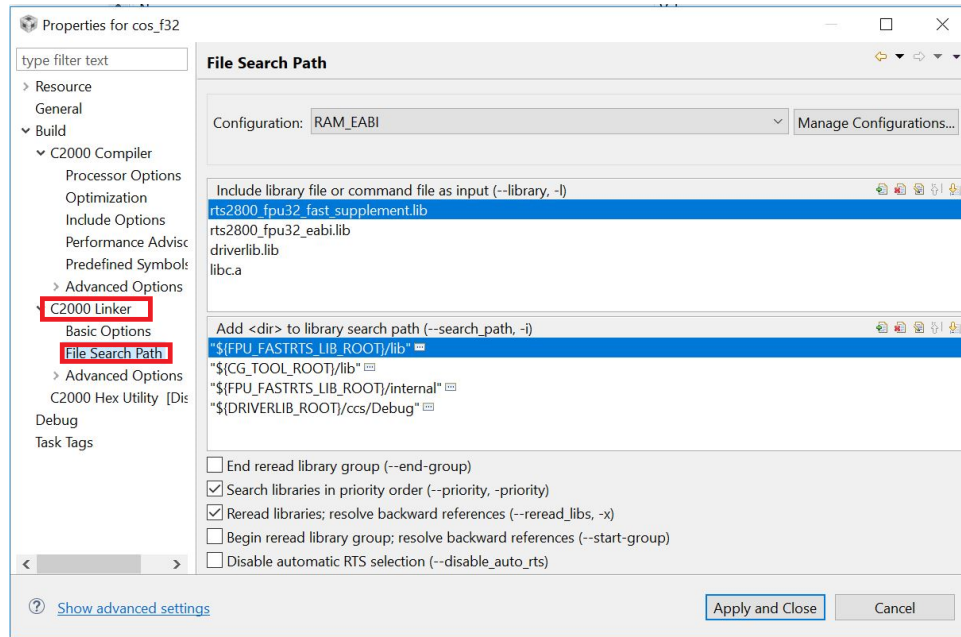
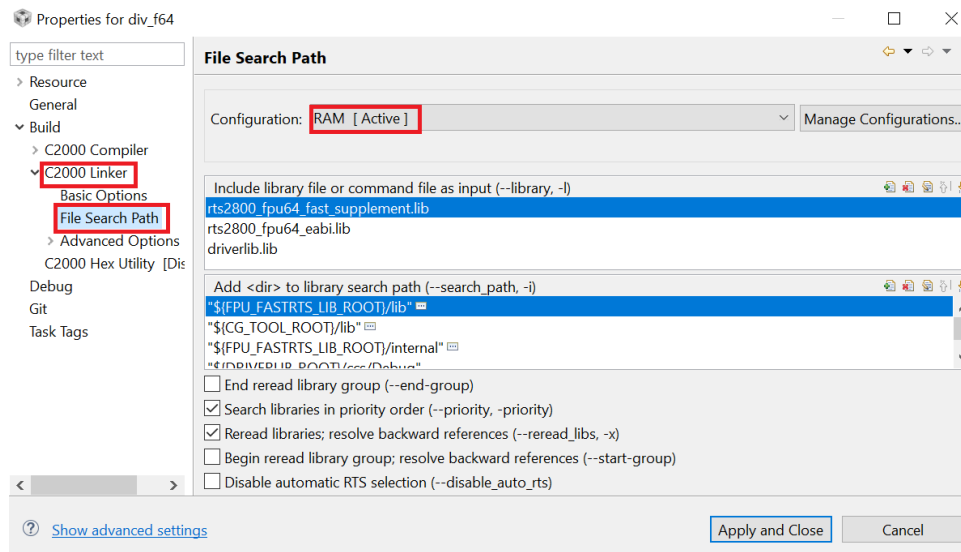
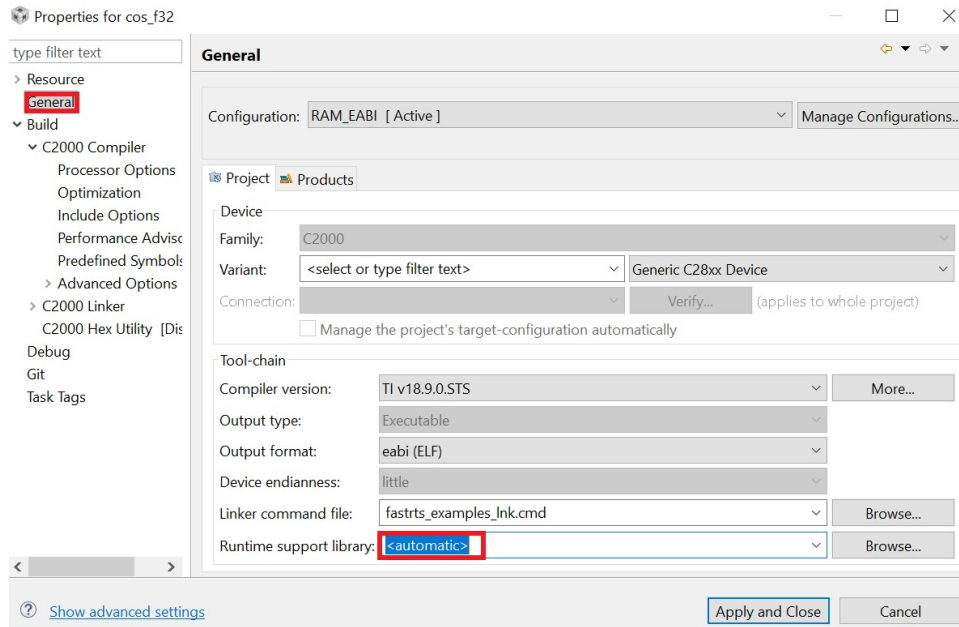

Figure 4.8: Adding the library and location to the file search path
Figure 4.9: Adding the library and location to the file search path
Figure 4.10: Selecting the Runtime Support Library
- Add the name of the library and its location to the **File Search Path** as shown in Figure 4.8 and Figure 4.9. For the single precision DSP library add `rts2800_fpu32_fast_supplement.lib`, and `rts2800_fpu64_fast_supplement.lib` for the double precision library.
5. In the project properties clear the *Runtime Support Library* option, as shown in Figure 4.10, or set it to auto. If you wish to include one of the other run time support libraries in your project, add it from the *File Search Path* option, as shown in Figure 4.8 and Figure 4.9, and place the fastRTS library above the other RTS library and select the **--priority** check box to ensure the compiler pulls the math routines from the fastRTS but the support routines (like